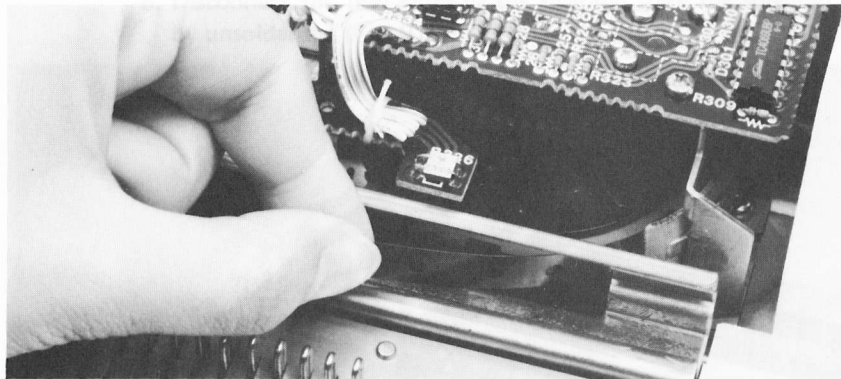

Fig. 85
C. Turn the rotary encoder assembly to the right and feed the timing belt to the rear rail side. (Fig. 85)